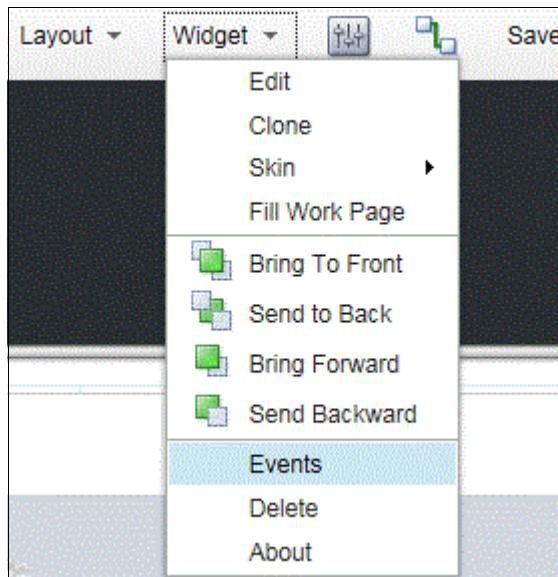

Figure 3-7 Set Wiring Events for widgets
8. Select the **Event Viewer** widget and then, from the Widget pull-down menu on the tool bar at the top of the page, select the **Events**, as shown in Figure 3-7.